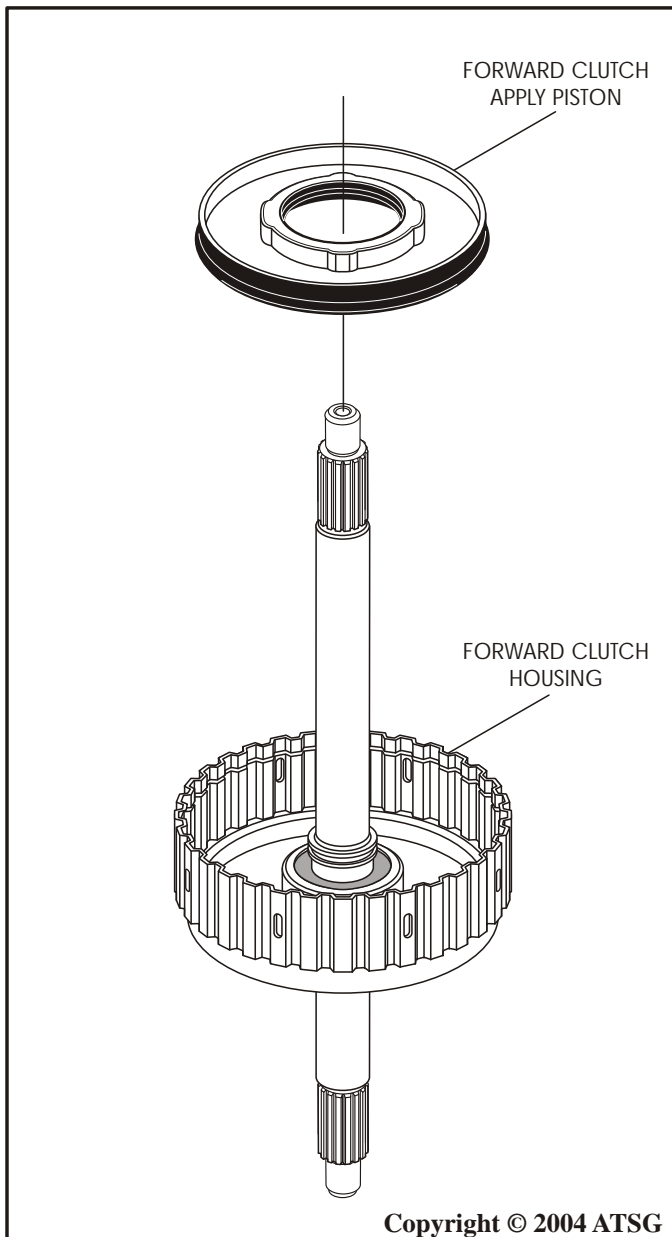

Figure 65
6. Install the forward clutch piston into forward clutch housing, as shown in Figure 65, with a twisting motion.